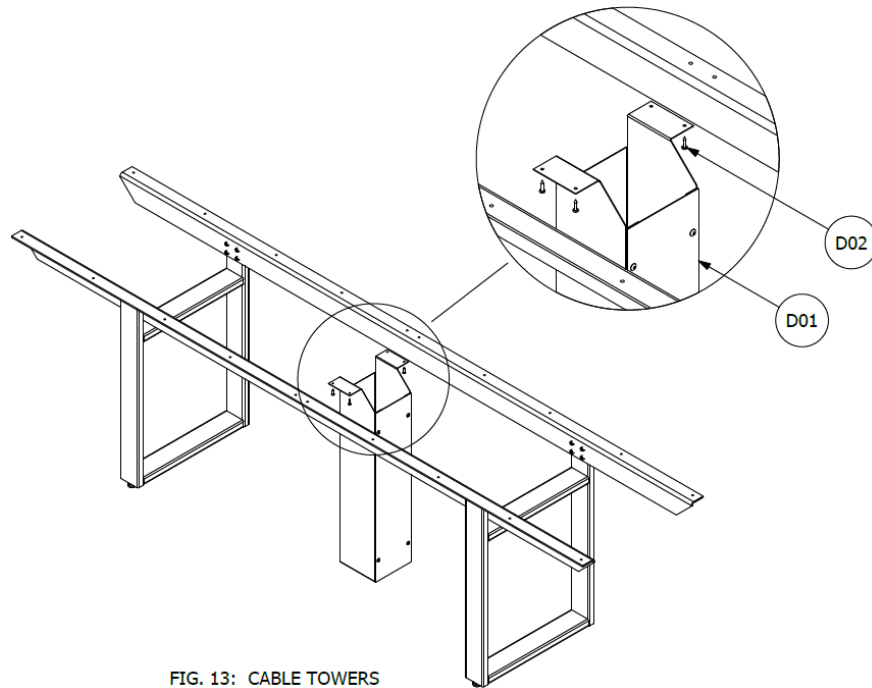

FIG. 13: CABLE TOWERS
1. Using Fastener (D02) attach Cable Tower (D01) to the underside of the Tabletop above the Stub-Up. See Figure 13.